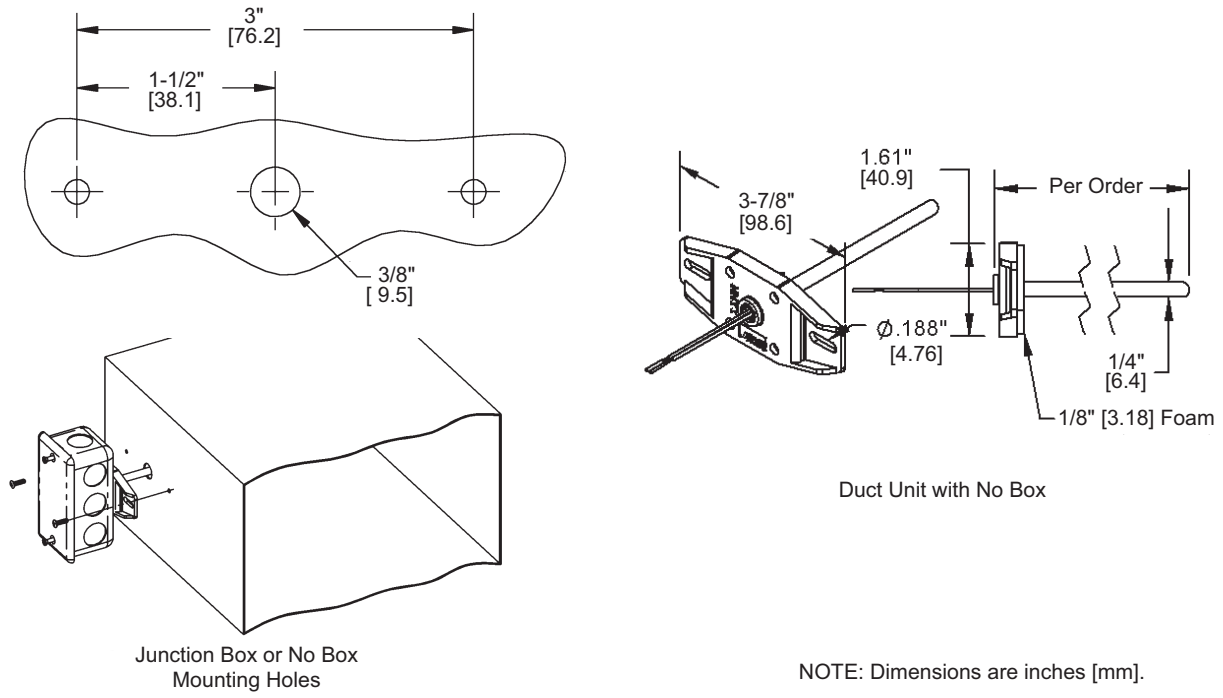

Fig. 8 – Sensor Schematic Mounting to Duct
2. Drill the probe hole as depicted in Fig. 8 for the enclosure being used. Insert the probe into the duct.